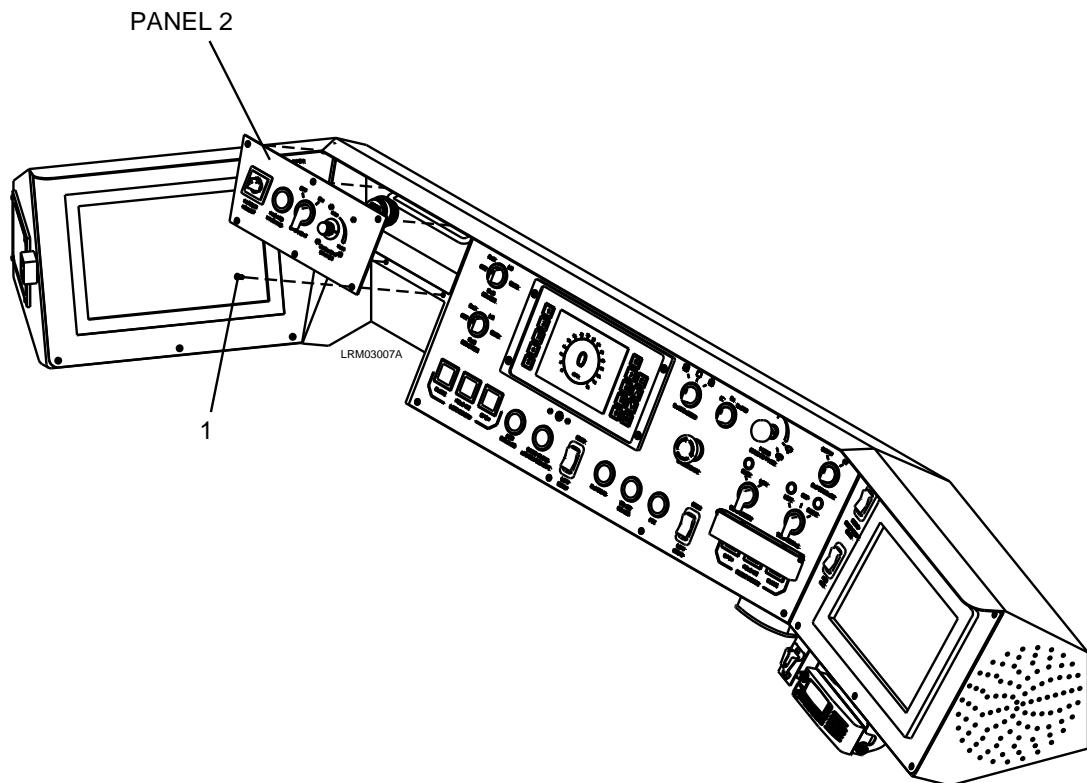

Figure 7-6: Console Panel 2
1. Remove the six #8-32 flat head screws (1) from the panel. See Figure 7-6.